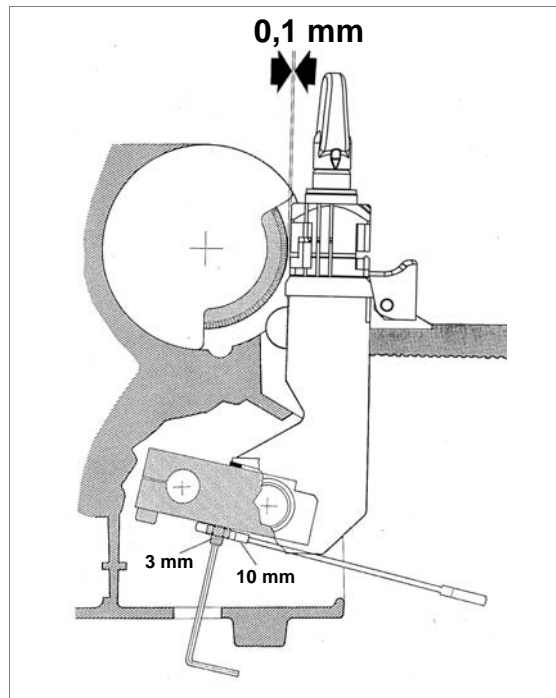

Fig. 24
- 2) Release the carriage and raise (against the cutting tool) at the end of run (fig.24).